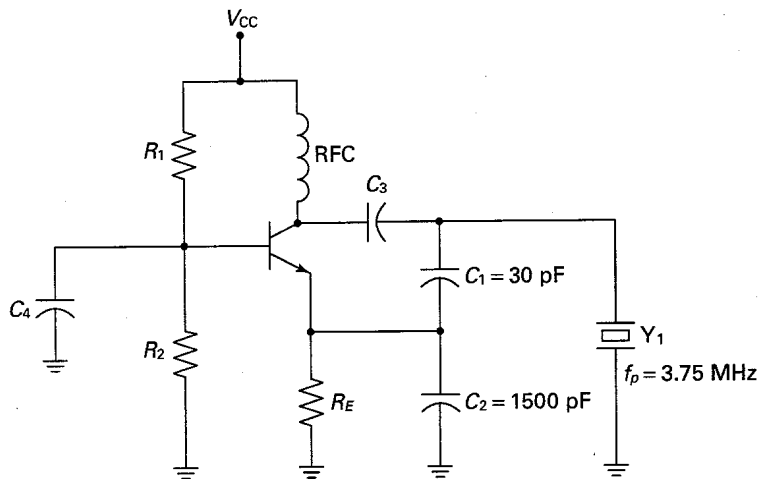

Fig. 2-27
2.14 Refer to Fig. 2-27. Calculate the feedback fraction  $B$ .
Inserting values from Fig. 2-27 gives us: